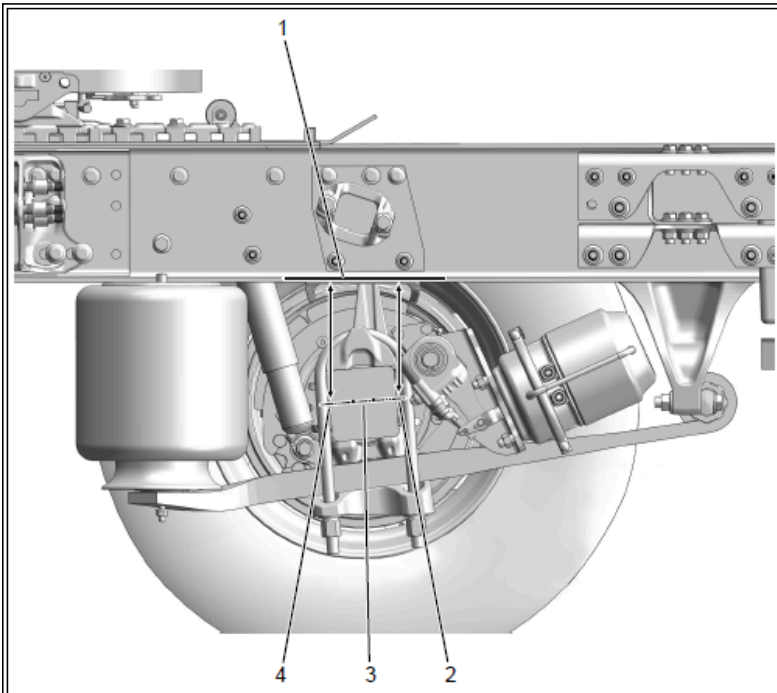

Figure 3: Ride Height Measurement
7. Measure the vertical distance from the marked line on the front of the axle tube (2) to the bottom of the frame rail (1). See Figure 3. Record measurement.
8. Measure the vertical distance from the marked line on the rear of the axle tube (4) to the bottom of the frame rail (1). See Figure 3. Record measurement.
9. Average recorded measurements made from the front and rear of the axle tube. Averaged measurement will indicate proper ride height from the true center of the axle tube (3) to the bottom of the frame rail (1).